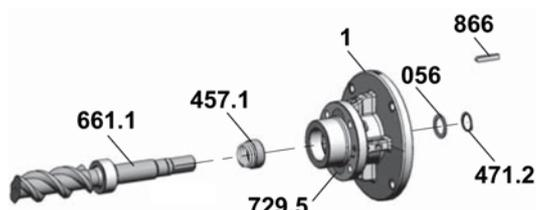

Fig 7
5. **Mechanical seal of hardmaterial:** Loosen the threaded pins **2**. Remove the rotary seal ring **457.1** and corresponding parts of the mechanical seal from the main screw, see Fig. 7.